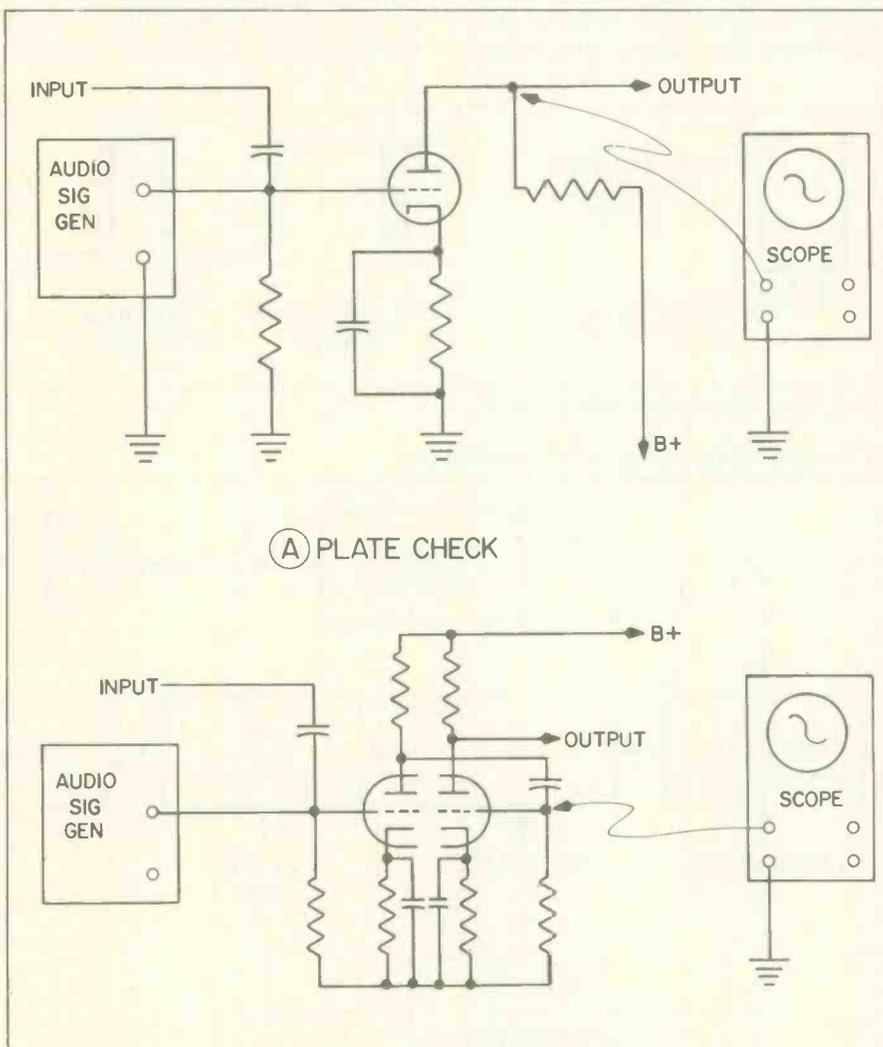

Fig. 5—Test connections for checking audio circuits for signwave conformity.
Modification of the color matrix is accomplished by closing the switch S_1 , shown in Fig. 5. When S_1 is closed, a 680pf capacitor is connected in parallel with the 820pf ca-
Fig. 5—The automatic tint guard employed in several Zenith color-TV sets permits the operator to select one of two different options of color demodulator matrix.
Audio stage test connections are shown in Fig. 5. Use a sinewave input to check for individual stage clipping or overloading, which will be recognized by a flattening of the sinewave.
Fig. 5—Using Test Points 47 and 49 as B-Y and R-Y signal sources in distorted vector patterns on the vectorscope. These traces were produced when switching the color generator to GATED RAINBOW (A); R-Y, B-Y, —(R-Y) (B); and RAINBOW (C).